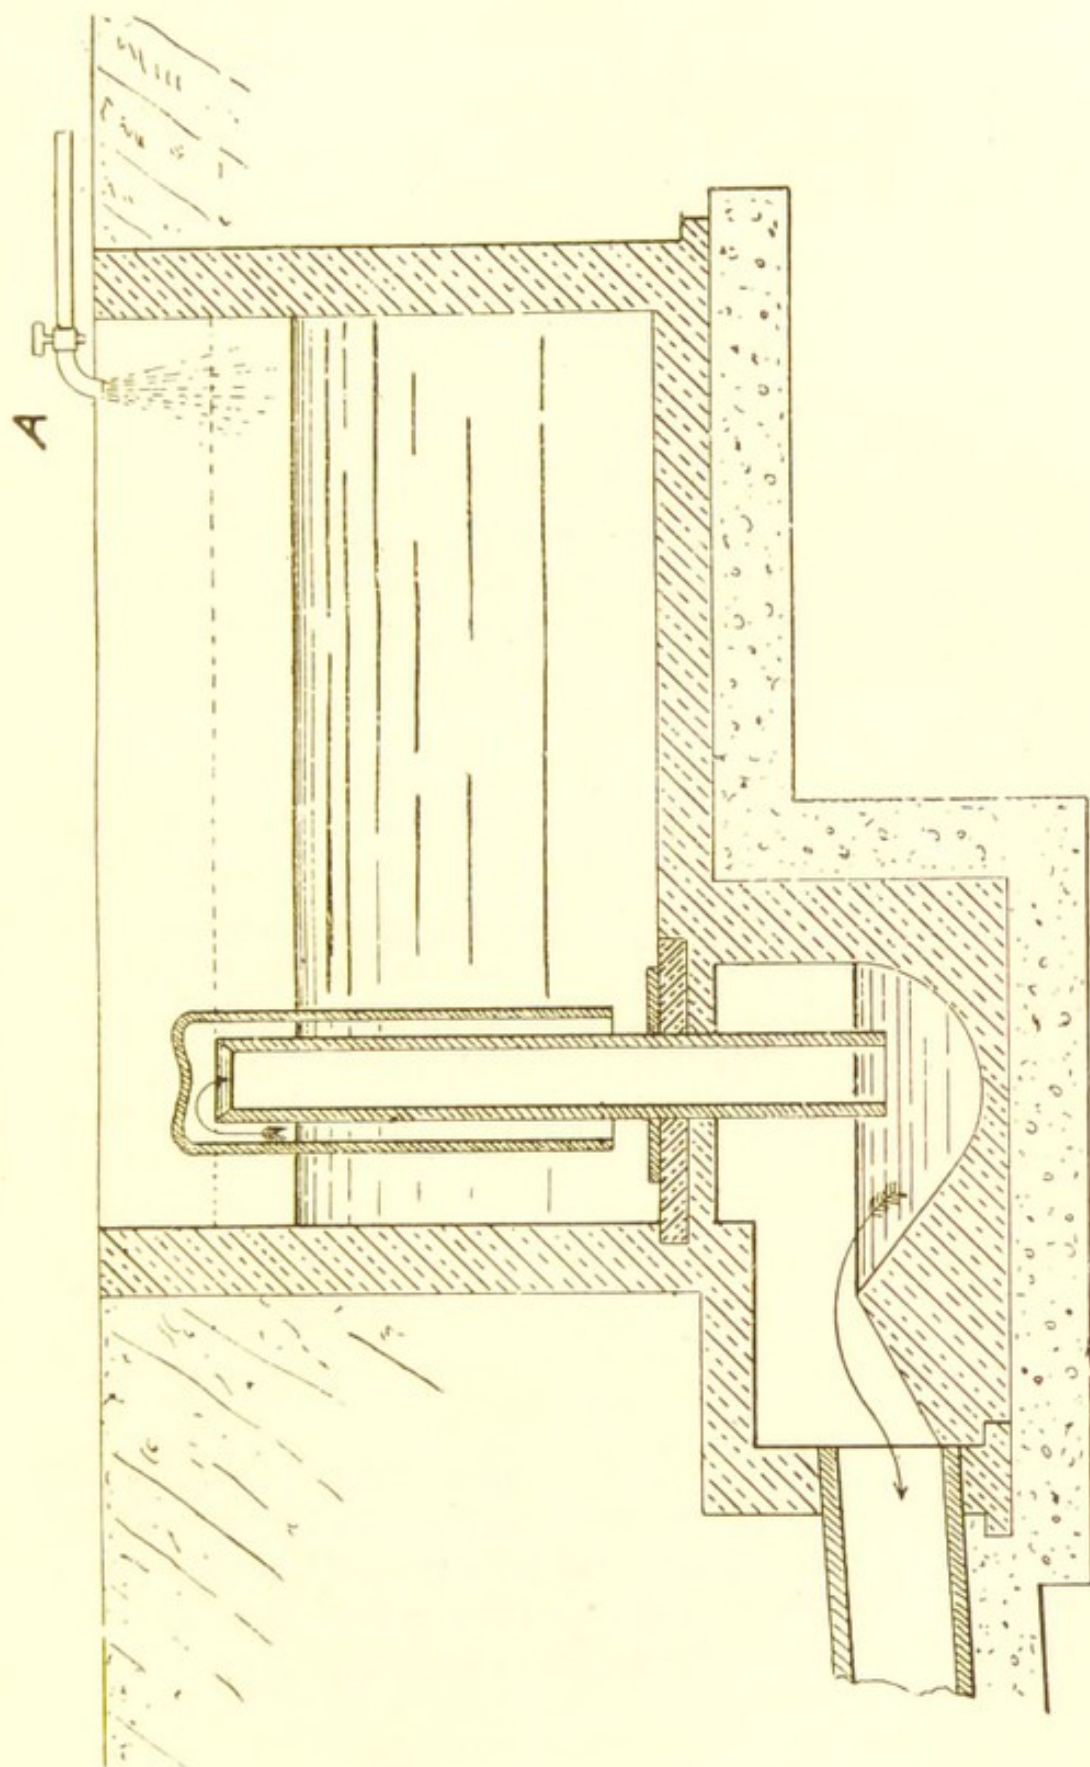

FIG. 35.
*Flushing and Cleansing of Drains.*—If, in designing any scheme of drainage, the engineer, owing to the circumstances of the case, cannot obtain sufficient fall to keep the drains clear, then some special means of flushing must be resorted to, such as the erection of a good automatic flushing-tank, which will give the necessary flushing, say, once or twice a day. The illustration Fig. 35 gives a section of Mr. Roger Field's flushing-tank as made by Messrs. Bowes, Scott & Read, of Westminster, which is now very generally used and is found to be a very useful appliance. The tank is discharged automatically by means of a siphon, and is fed by a small and continuous stream of water from a tap at *A*. The contents are discharged suddenly with great rapidity into the drain, thus driving all deposit before it. The size of the tank, of course, should be proportional to the length of drain to be flushed, bearing in mind also the amount of fall the drain possesses. These flushing tanks may also be obtained at a cheaper rate made of galvanised iron.